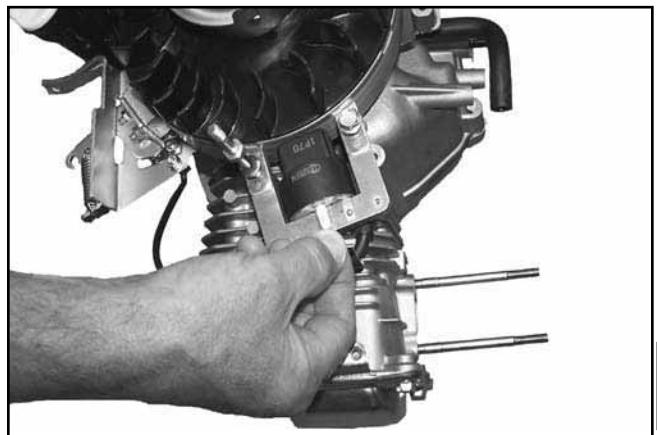

Figure 8-25. Disconnecting Kill Lead.
1. Disconnect the kill lead from the ignition module. See Figure 8-25.